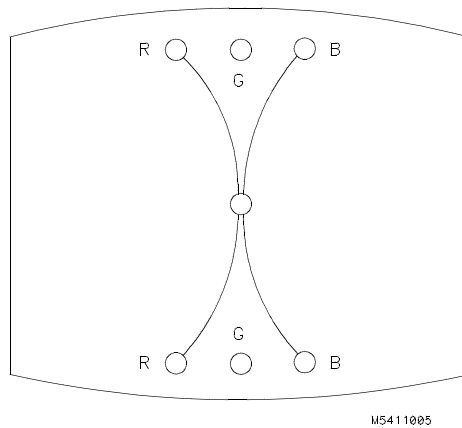

Figure 4-19. Y BOW Adjustment
2. Adjust the Y BOW (RV805), located on the bottom PC board, to eliminate red, green, and blue bowing at the top and bottom of the center vertical line. See figure 4-19.